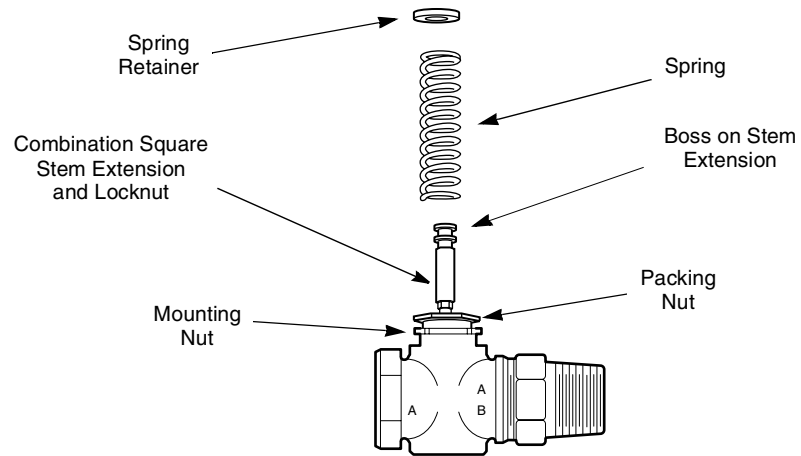

Figure-5 Assembly of AV-400 Linkage Kit onto VB-9xxx Series Valve.
10. Install the actuator onto the valve by screwing the actuator base onto the mounting nut (Figure-5). The actuator may be rotated as desired to facilitate making the pneumatic connection.
1. Thread the square stem extension several turns onto the valve stem (Figure-5).
8. Hold the spring to prevent it from turning. "Walk" the tool up the spring coil by turning it counterclockwise until the boss on the stem extension (Figure-5) projects above the top coil of the spring. Pushing down on the tool reduces torque required to turn the stem and plug into the seat.
9. Install the spring retainer (Figure-5) onto the stem extension and turn the retainer 45° to lock it in place.